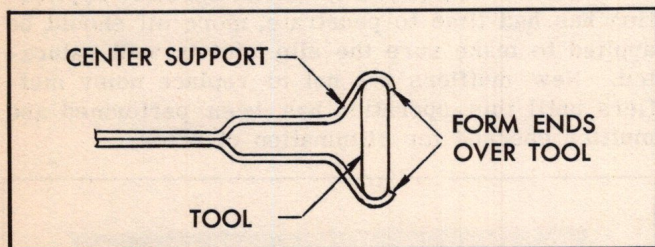
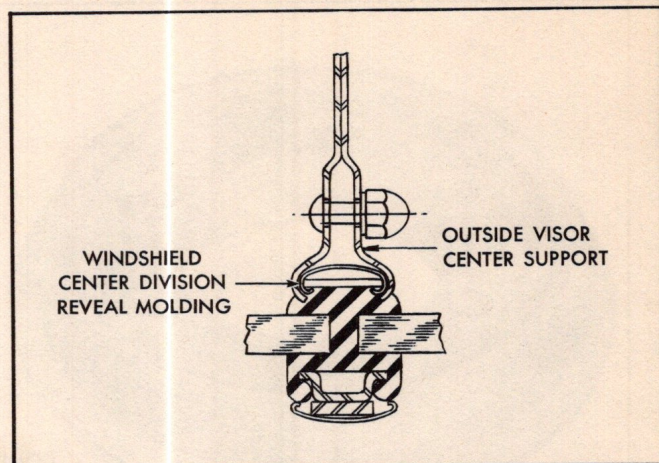

Fig. 4 Forming Clamp Over Special Tool
Fig. 5 Visor Support Properly Installed
b. Insert the tool in the clamp end of the center support and form the edges of the clamp around the tool. See Fig. 4. This will insure that clamp will grip the windshield center division molding properly (Fig. 5).
2. Install sun visor with center support clamped over windshield center division molding as shown in Fig. 5.